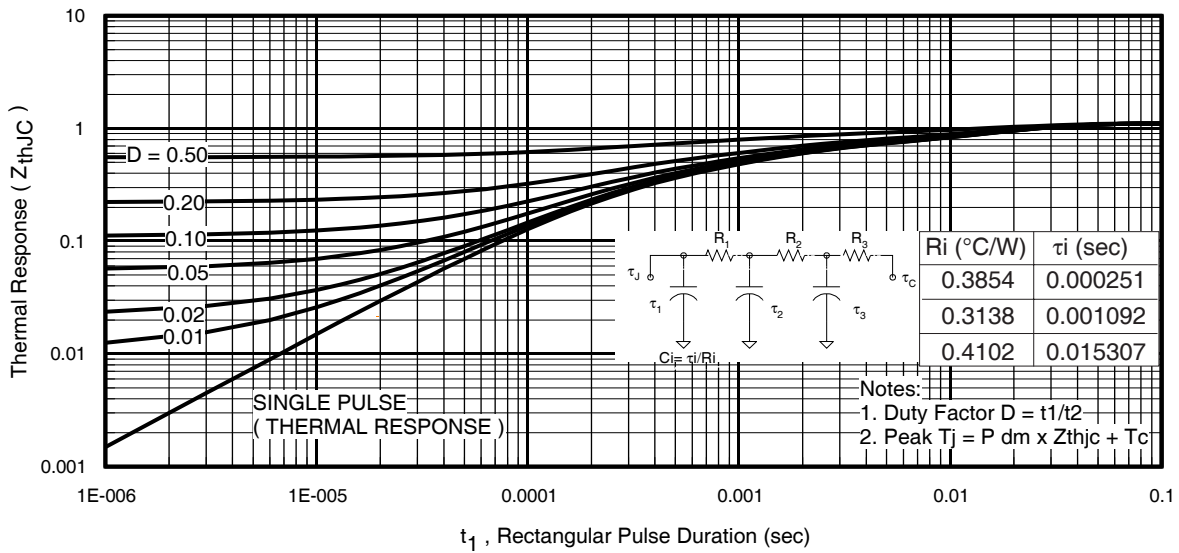
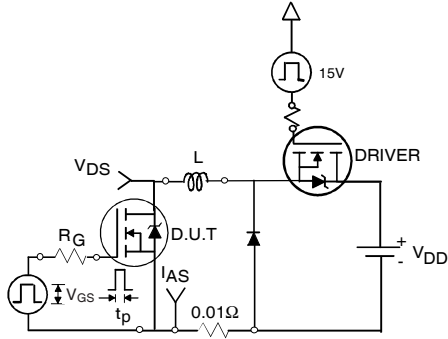

Fig 11. Maximum Effective Transient Thermal Impedance, Junction-to-Case
Fig 12a. Unclamped Inductive Test Circuit
3. Equation below based on circuit and waveforms shown in Figures 12a, 12b.
$Z_{thJC}(D, t_{av})$ = Transient thermal resistance, see figure 11)
- ① Repetitive rating; pulse width limited by max. junction temperature. (See fig. 11).
- ② Limited by T_{Jmax} , starting $T_J = 25^\circ\text{C}$, $L = 0.13\text{mH}$, $R_G = 25\Omega$, $I_{AS} = 42\text{A}$, $V_{GS} = 10\text{V}$. Part not recommended for use above this value.
- ③ Pulse width $\leq 1.0\text{ms}$; duty cycle $\leq 2\%$.
- ④ C_{OSS} eff. is a fixed capacitance that gives the same charging time as C_{OSS} while V_{DS} is rising from 0 to 80% V_{DSS} .
- ⑤ Limited by T_{Jmax} , see Fig.12a, 12b, 15, 16 for typical repetitive avalanche performance.
- ⑥ This value determined from sample failure population. 100% tested to this value in production.
- ⑦ When mounted on 1" square PCB (FR-4 or G-10 Material). For recommended footprint and soldering techniques refer to application note #AN-994
- ⑧ R_θ is measured at T_J approximately 90°C